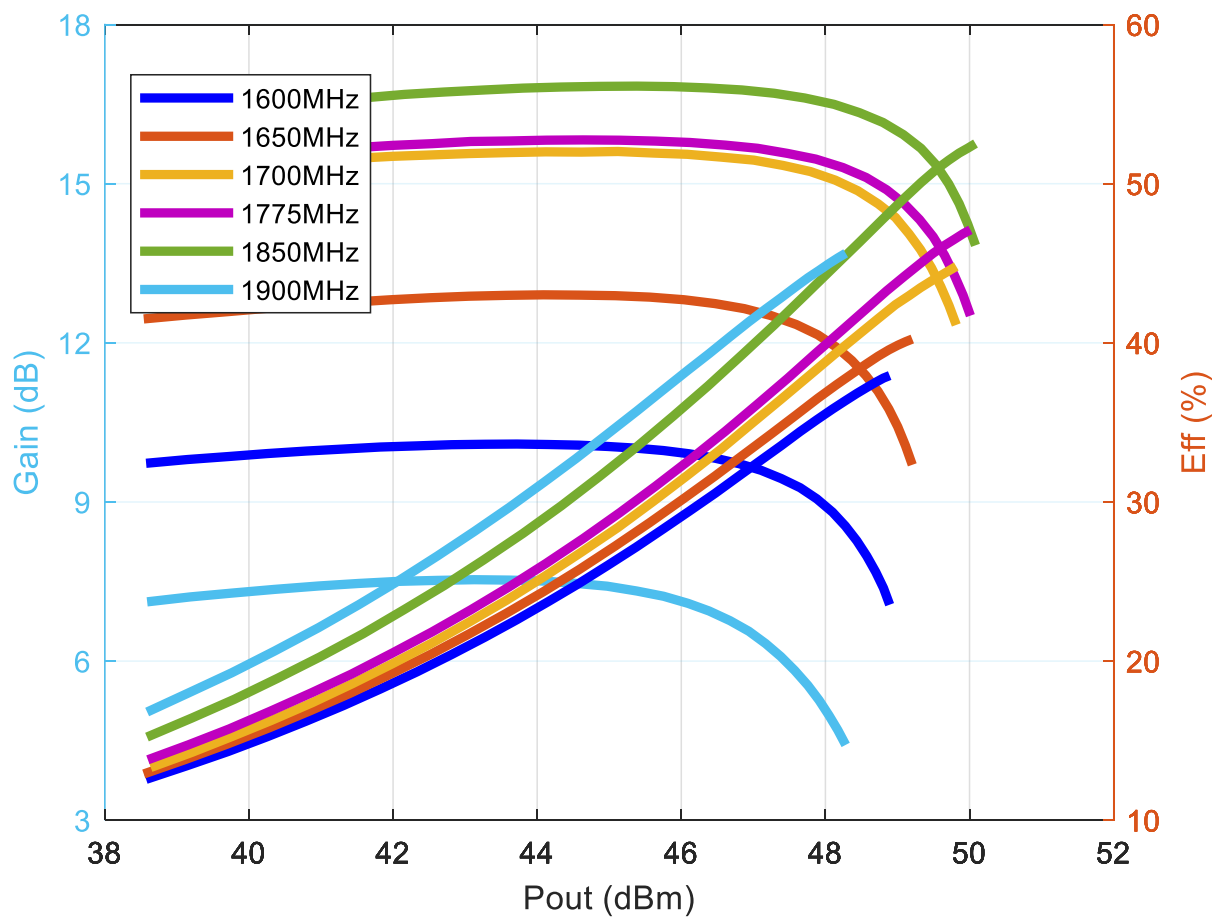

Figure 7. Gain and Drain Efficiency vs CW Output Power
- Figure 7. Gain and Drain Efficiency vs CW Output Power 12